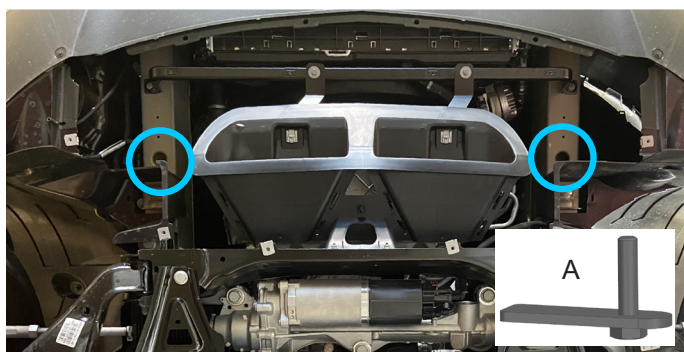

Fig. 1
1. Put insert bolts M8 (item A), as shown in fig.1.